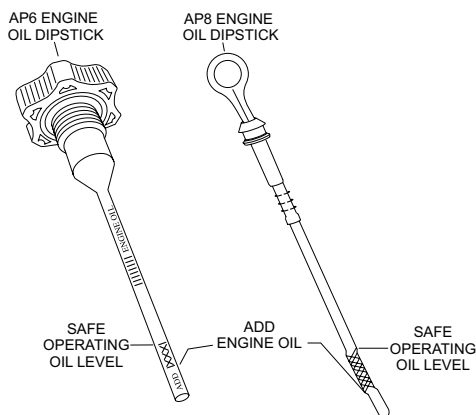

Figure 16. AP6/AP8 Engine Oil Dipstick
3. Verify that the oil level (Figure 16) is maintained between the two notches on the dipstick.